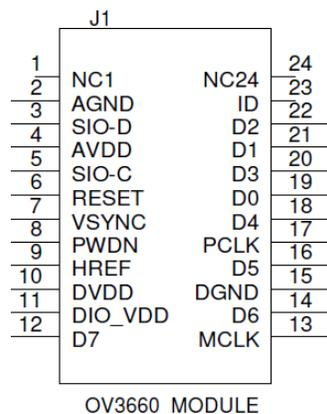

Figure 2-3. Pin Assignment of the Omnivision OV3660 Module
The connector on the CC3200CAMBOOST is the DF30FC-24DS-0.4V(82) from Hirose. The mating camera module must be physically and electrically compatible with the connector on the CC3200CAMBOOST. The connector definition is provided in Figure 2-3.